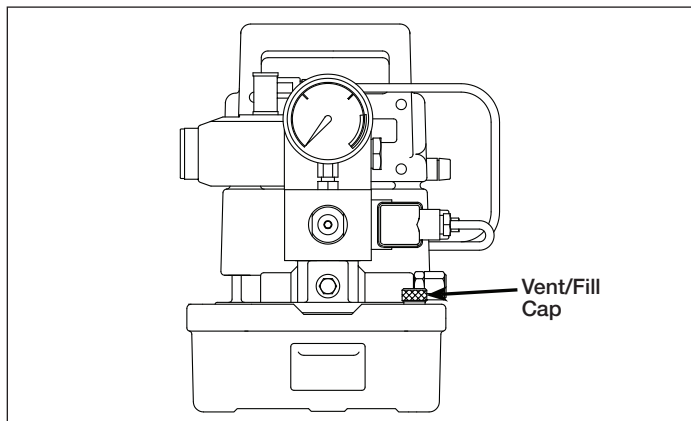

Figure 4, Vent/Fill Cap
Check the oil level by unscrewing and removing the vent/fill cap (see Figure 4). Add Enerpac hydraulic oil until the oil level is 1/2 inch [1 cm] below the vent/fill cap opening.
3. Open the pump vent/fill cap located on the front right corner of the reservoir by turning it 1 or 2 complete turns (see Figure 4).
1. Remove the vent/fill cap from the top right hand corner of the reservoir (see Figure 4).